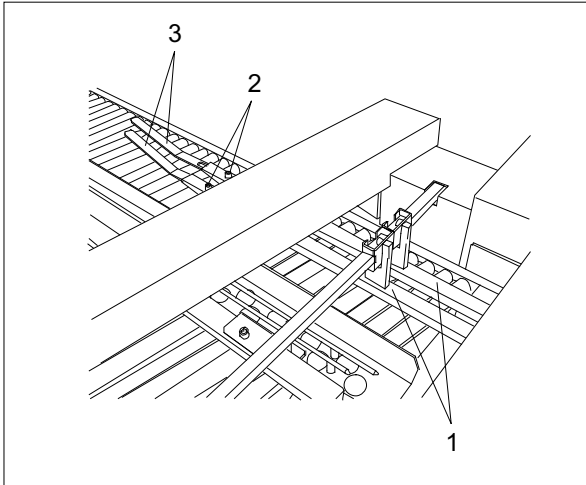

Fig. 79 Hold-down rods
The hold-down rods (Fig. 79/1) serve to guide and settle the paper travelling along the roller table. They are mounted on a cross-bar and can be moved sideways.
1. Loosen the Allen screws (Fig. 79/2) at the hold-down rods (Fig. 79/1).
2. Pull out the extensions (Fig. 79/3).
3. Secure the Allen screws (Fig. 79/2).